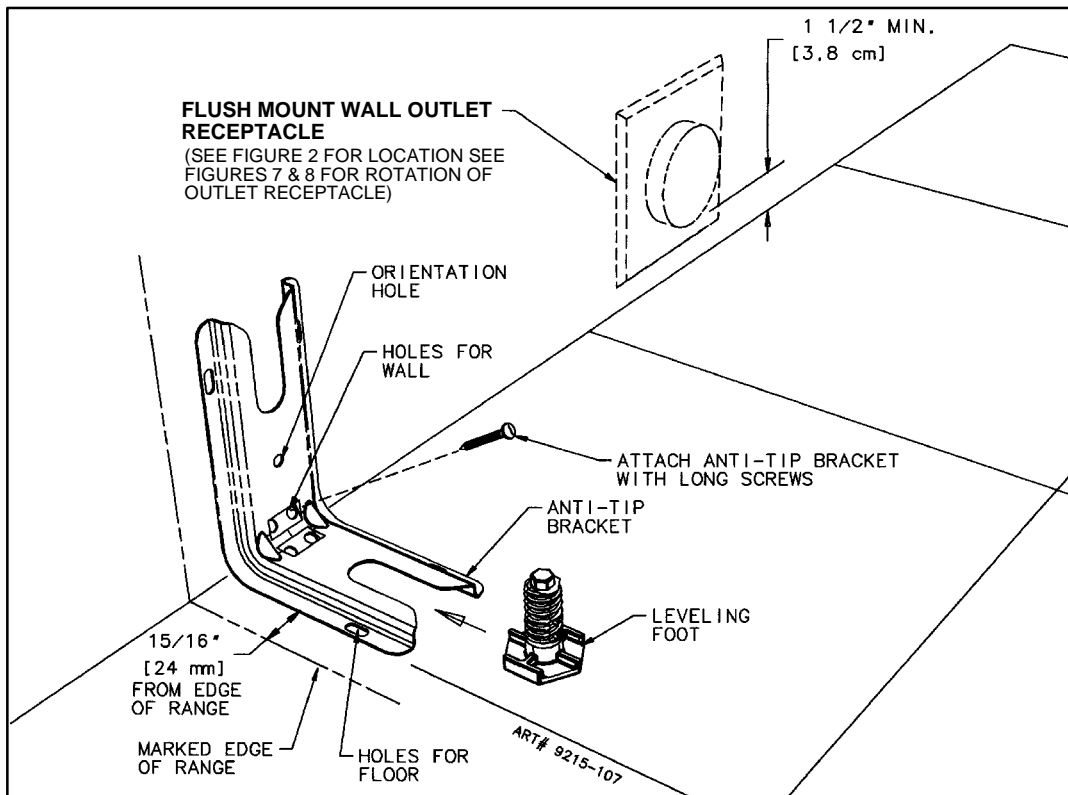
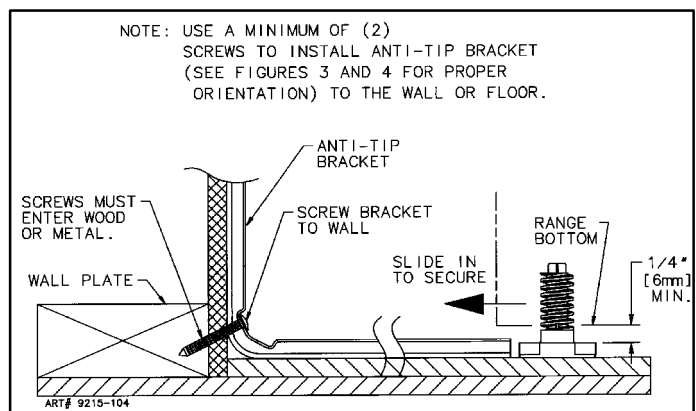

FIGURE 3
FIGURE 5
Install the bracket with the orientation hole in the longer leg against the wall or floor as shown in figures 3 and 4.
STEP 1 - Locating The Anti-tip Bracket (See Figure 3) Installations With Flush Mount Wall Outlet
- B. Place the BRACKET 15/16" (24mm) from the marked "EDGE" toward center of opening and against the back wall as shown in figure 3, with orientation hole against wall.
- C. Use the bracket as a template and mark the required holes, as shown in figure 3, for the type of construction you will be using.
1. Floor: Locate the center of the two holes identified in figures 3 and 4 as applicable, as "HOLES FOR FLOOR." Drill a 1/8" (3 mm) pilot hole in the center of each hole (a nail or awl may be used if a drill is not available). Secure the ANTI-TIP bracket to the floor with the two screws provided. Proceed to STEP 3.
2. Wall: Locate the center of the two holes identified in figures 3 and 4 as applicable, as "HOLES FOR WALL." Drill an angled 1/8" (3 mm) pilot hole in the center of each hole as shown in figure 5. (A nail or awl may be used if a drill is not available). Secure the ANTI-TIP bracket to the wall with the two screws provided as shown in figure 5. Proceed to STEP 3.
figures 3 and 4 as applicable, as "HOLES FOR FLOOR". Secure the ANTI-TIP bracket to the floor. Proceed to STEP 3.
- B. Align the range to its designated location and slide it back into position. Note: A minimum clearance of 1/4" (6 mm) is required between the range and the leveling foot that will engage the ANTI-TIP bracket, see figure 5.